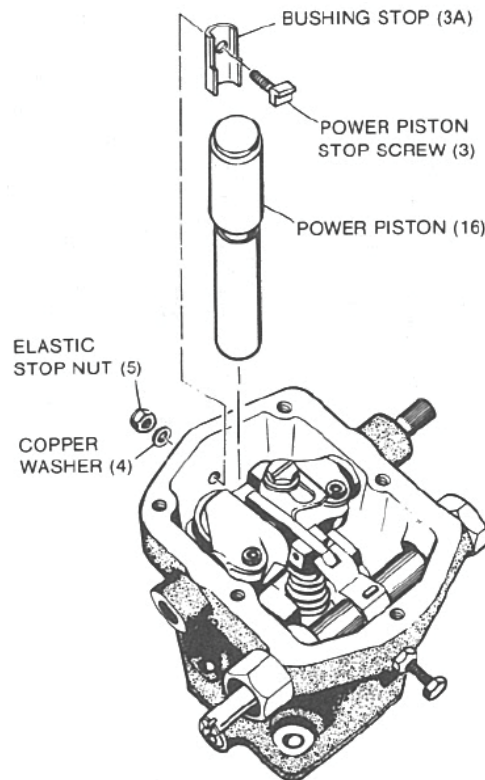

Figure 3-16. Power Piston Assembly
11. Place piston into case as shown in Figure 3-16 and 3-17.